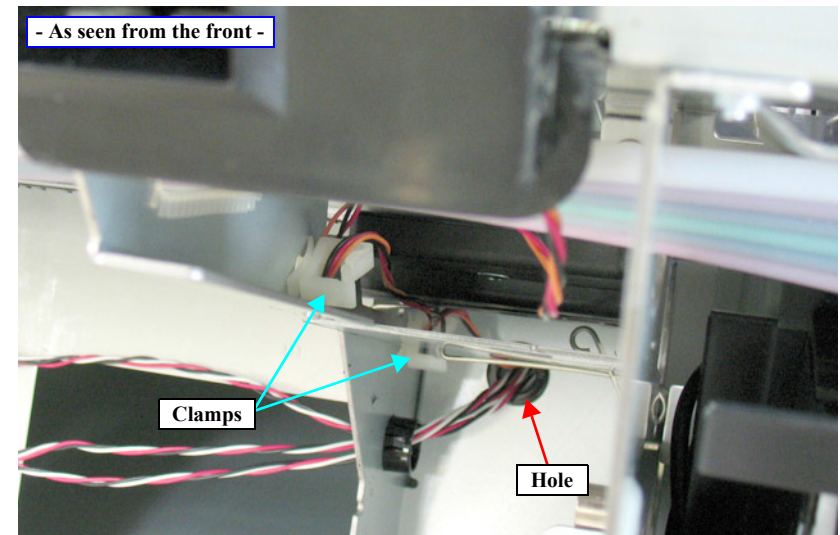

Figure 4-34. Releasing the harnesses (front)
10. Pull out the harness from the hole on the Main Frame. *See Figure 4-34.*
11. Release the cable from the two clamps. *See Figure 4-34.*